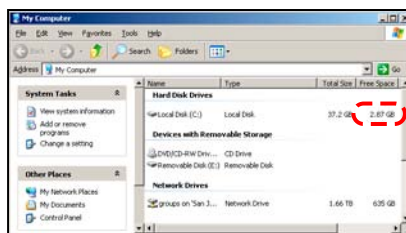

Figure B-2 Sample PC hard drive free space details
2. Select **View > Details** (Figure B-2).